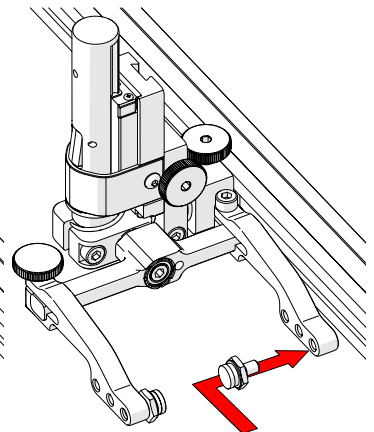

Fig. 79 - Place buttons
3. Position the pivot buttons where necessary. When a narrow scanning footprint is required, use the pivot button holes closest to the yoke (Fig. 79).